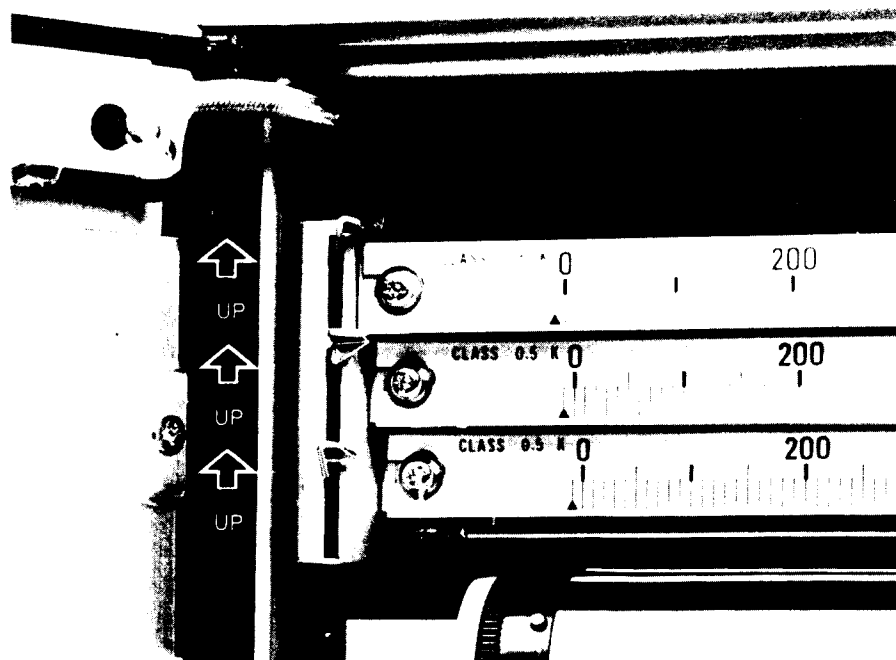

Figure 2-3. Pen Lifts
1. Open the protective glass door. Grasp the hand grip and roll out the chassis. Pen Lifts are the levers on the left side of the scale. Press each of the pen lifts up to remove pen tips from the chart paper. See Figure 2-3.